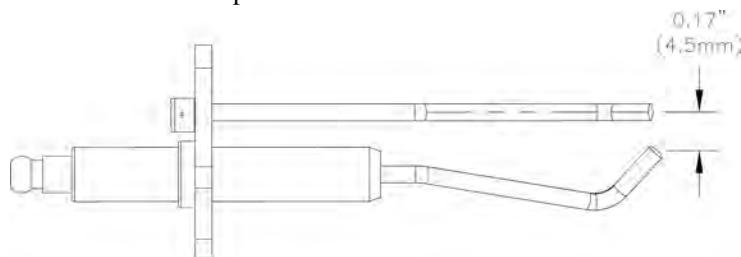

Figure 56: Ignitor Electrode Gap
4. Remove the ignition electrode and inspect it for oxides. Clean the oxides from the electrode with steel wool. Do not use sandpaper for the cleaning. Inspect the ceramic insulator for cracks and replace the ignitor assembly if necessary. Check the ignitor electrode spacing gap. Refer to Figure 56 "Ignitor Electrode Gap" for details.